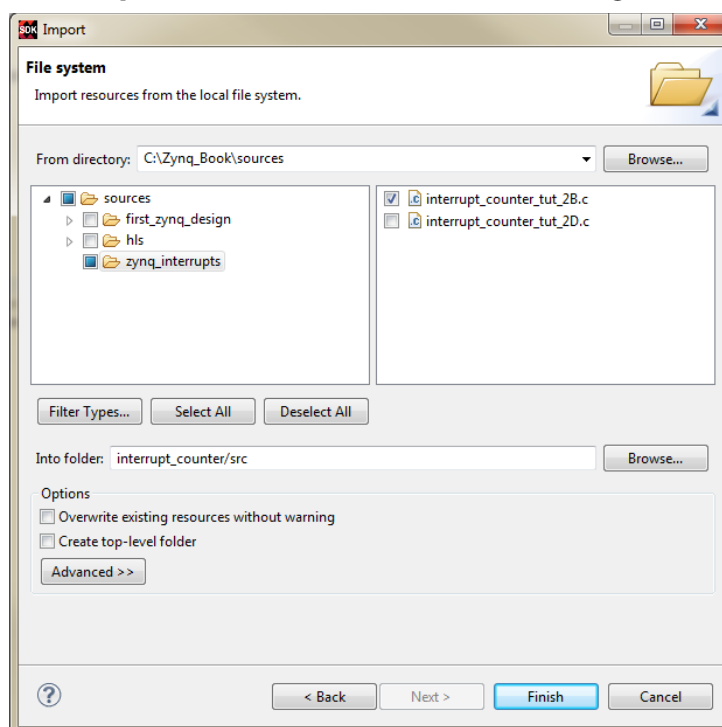

Figure 2.22: Import C source file
- (g) Select the file **interrupt_counter_tut_2B.c**, as shown in Figure 2.22, and click **Finish**.